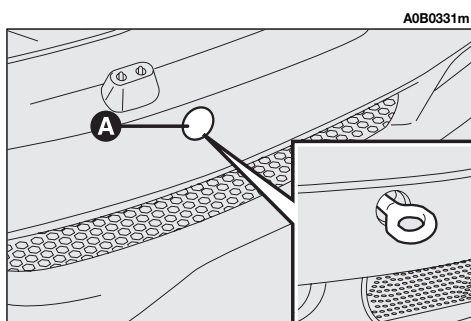
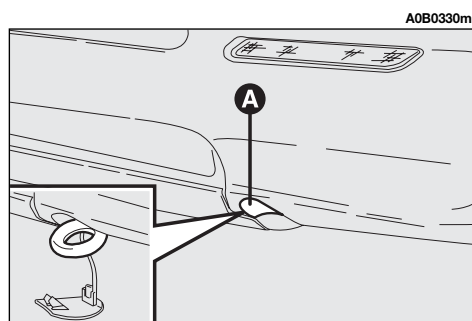

fig. 77
fig. 78
- Remove the cover (**A**) snap-fitted on the front (**fig. 77**) or rear bumper (**fig. 78**). If the supplied flat screwdriver is used to carry out this operation, protect the tip with a soft cloth to prevent damaging the car.